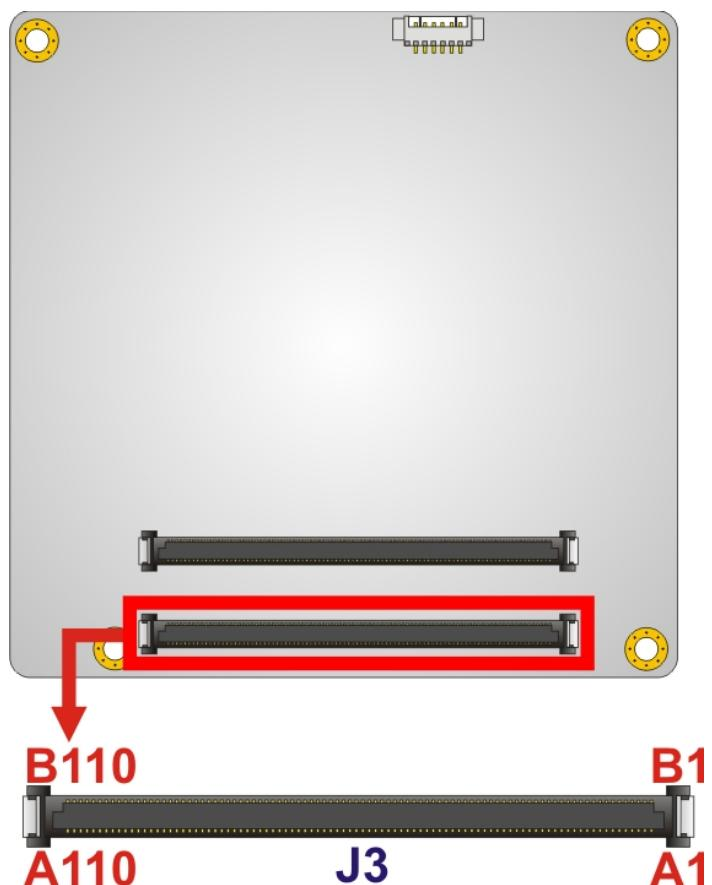

Figure 3-4: COM Express Connector AB Location
**CN Location:** See Figure 3-4